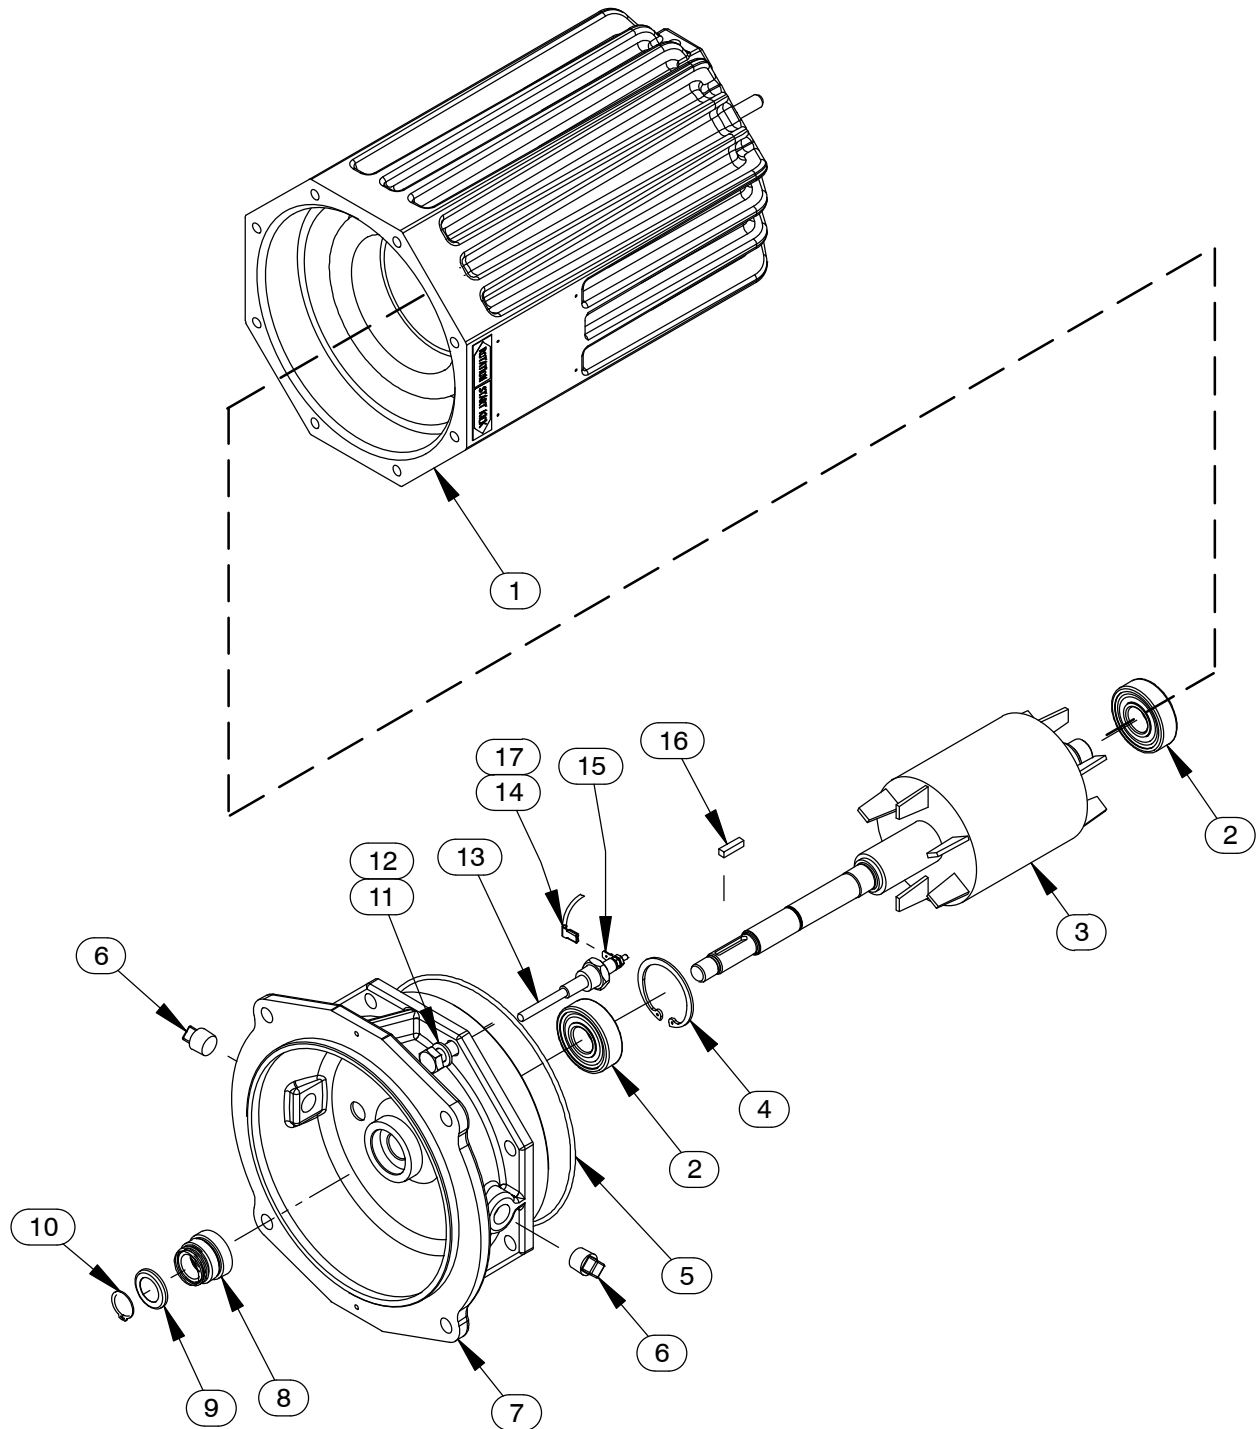

Figure E-2. Motor Assemblies
Draining Oil From Seal Cavity**(Figure E-2)**
To remove the impeller, use two thin-bladed screwdrivers positioned 180° apart to pry on the back of the impeller and “walk” the impeller off the shaft. Use increasingly larger screwdrivers (or wedges) as necessary. After the impeller comes free of the shaft, retain the impeller key (16, Figure E-2).
An alternate method of removing the stationary element is to remove the screws (16) securing the seal plate (14) to the motor assembly (7). Pry the assembled seal plate and stationary element off the shoulder of the intermediate (7, Figure E-2). Remove the O-ring (6) and press the stationary element and seat out of the seal plate from the back side.
Upper Seal Removal (Figures E-2 and E-3)